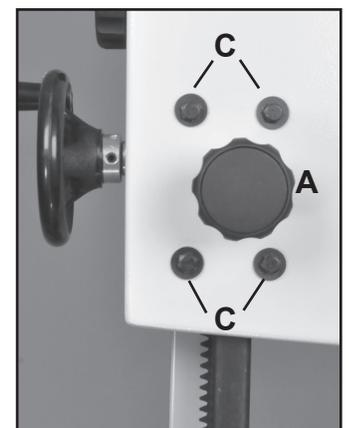

FIGURE 30
4. Loosen the four Hex Bolts (#2D) located at the rear of the top frame. Fig. 30, C. This will allow the guide post to be shifted/angled a bit left or right to correct any positioning issues.